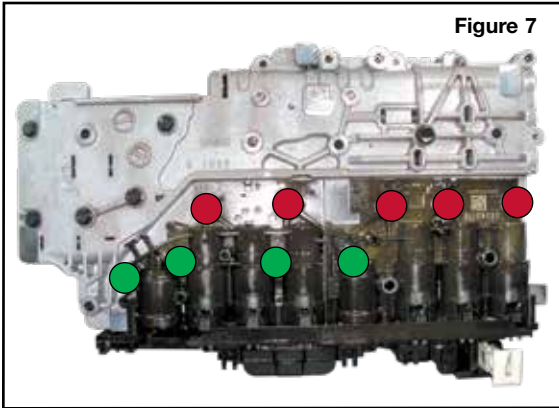

Figure 7
- Remove the four 10mm head and five 7mm head bolts (**Figure 7**). Remove the TEHCM and set aside for inspection, testing and cleaning.
- c. Install the four 10mm head and five 7mm head bolts and *hand-tighten only* (Figure 7).